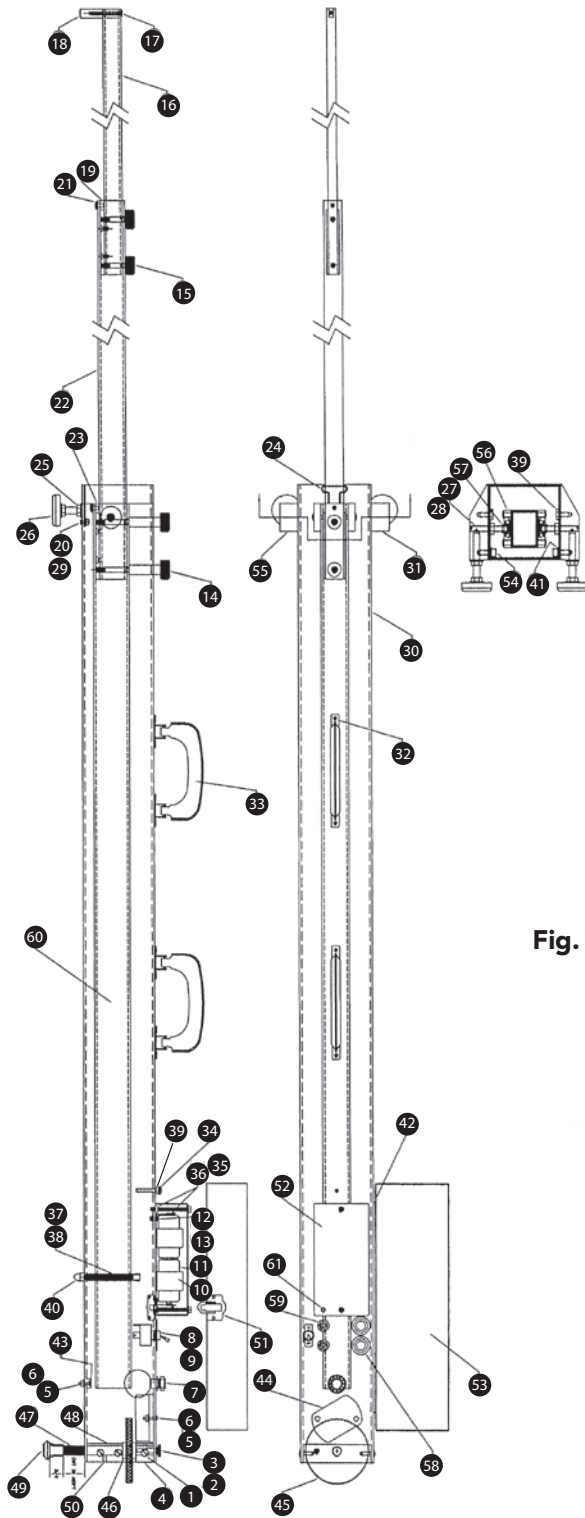

Fig. 1
1. Place the Benkelman Beam on a sturdy workbench or table. Loosen the lock nut (Fig. 1, #39) and the stop screw (#34). This stop screw acts as a mechanical stop, preventing the dial indicator from bottoming out when the unit is moved with the beams extended. Later adjust the screw correctly to eliminate the possibility of repeated bottoming, which can cause severe damage to the dial indicator.
2. Deflect the spring clip and extend the center and end beams (Fig. 1, #16 & #22) out about two feet. Remove the locking studs (#15 & #14) from their storage holes and place them aside for later installation. 3. Gently install the indicator into the indicator collet (Fig. 1, #7), loosening the collet nut, if necessary. By placing a finger through the hole on the side of the inner frame beam, move the beam through its extreme up and down range. Watch the indicator as you move it. **(If you are using a dial indicator, count the number of pointer revolutions your dial indicator makes from one extreme to the other, and record this number for future reference.)**
4. After adjustment, turn the stop screw (Fig. 1, #34) in a clockwise direction, until approximately .004 of movement is registered on the indicator. Now tighten the lock nut against the frame. Recheck the adjustment, making sure the indicator is not bottomed out when the frame beam is moved to the extreme top of its travel. **(When using a dial indicator turn the stop screw (Fig. 1, #34) in a clockwise direction, until approximately two divisions of pointer movement are shown on the dial indicator.)**
5. Turn the thumb wheel (Fig. 1, #45) until the bottom of the leveling screw (Fig. 1, #49) is about 1-½" below the bottom of the frame.
7. Note the relative position of the front follower tip (Fig. 1, #18) and the dial indicator pointer. If the front follower tip is not on the floor, loosen the lock nuts (#25) and screw the front leveling feet into their supports until the indicator is about in its mid range. Making sure the two leveling feet are an equal distance from the bottom of the frame, use the lock nuts to lock them in place. The indicator is now in its correct location, protected from bottoming damage.
- B. Turn on the vibrator system and adjust the position of the rear support (Fig. 1, #45) so the dial indicator is set to zero. Lock the rear support in place with its locking screw (Fig. 1, #3). If additional adjustment is necessary, it can be done by repositioning the height of the front legs. Zero the digital indicator or note the dial indicator reading.